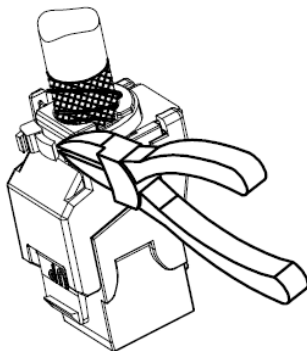

Fig. 15
- 1) Cut off the cable tie (Fig 15)